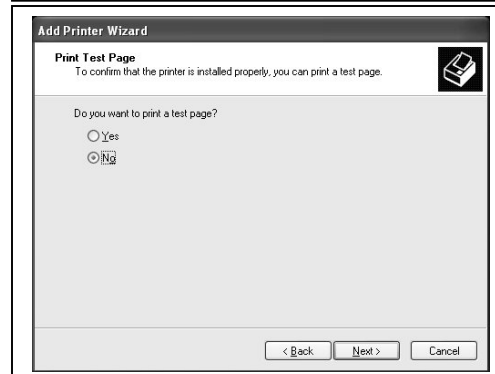

fig 10
10. Say No to “Print Test Page” (fig 10) and click next.